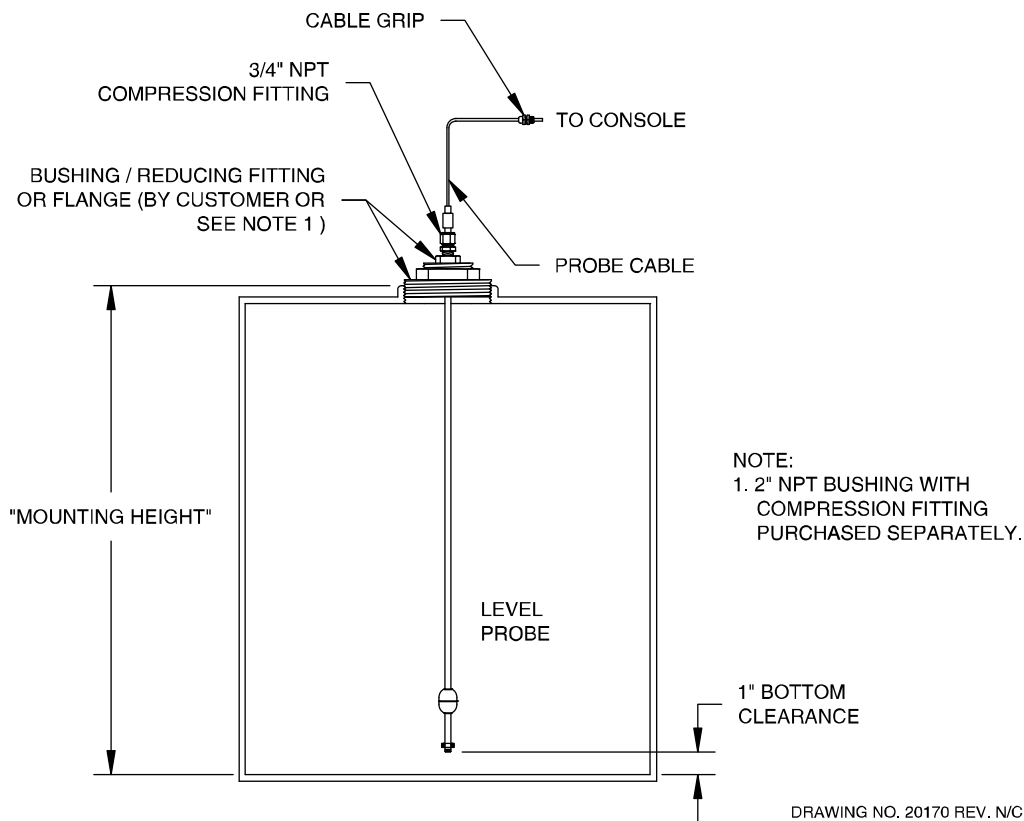

Figure 2-4 - Reducer Fitting or Flange Mounting for Aboveground Tanks
Install the level probe per Figure 2-4 as follows:
2. At appropriate locations along the conduit runs (see Figures 2-4, 2-6, 2-7 through 2-12) install watertight couplings and approved VAPOR SEAL-OFF fittings.